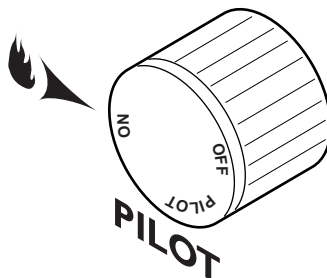

Figure 54 - On Position
Depress and turn the knob counterclockwise  to the “ON” position. *Figure 54*. It will take less than four (4) seconds for the burner to ignite.